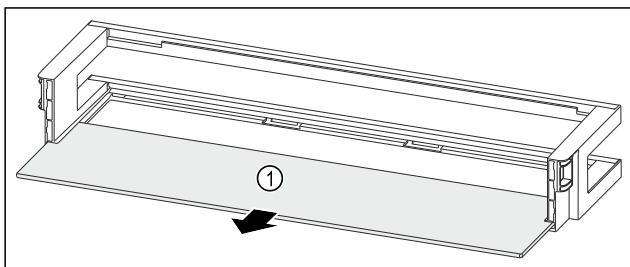

Fig. 87 Door racks with shelf
- ▶ Remove the shelf Fig. 87 (1).